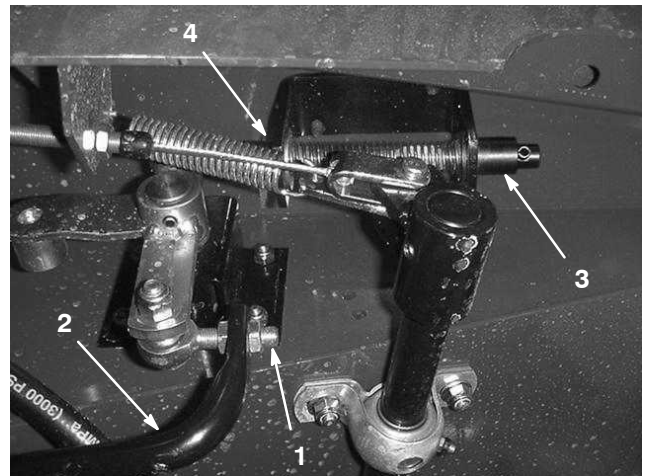

Figure 66
3. Loosen the jam nuts on the rod end and adjust the traction rod length (Fig. 66) so that the pedal contacts the pedal stop at the same time the pump lever reaches full stroke. Secure the jam nuts.